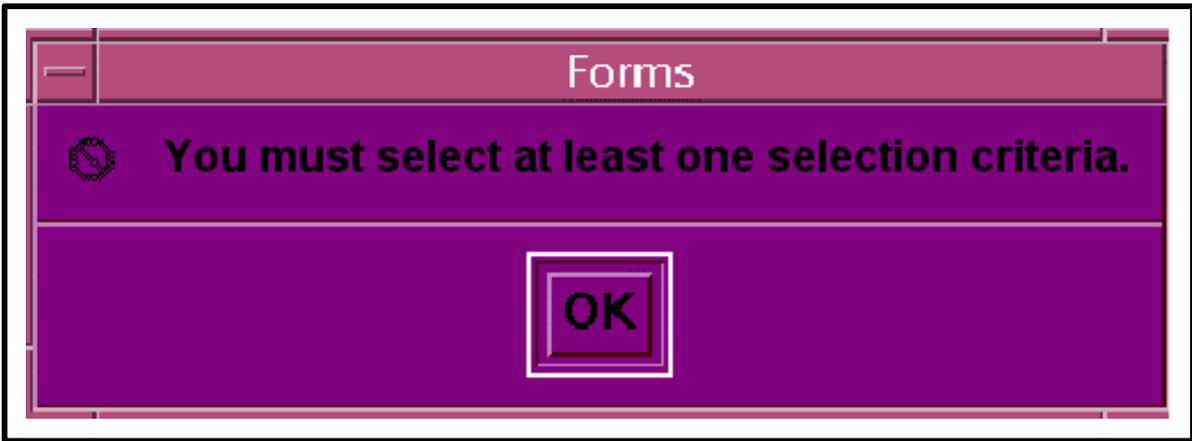

Figure 26. Selection Error Dialogue Box
- If no selection criteria were selected, a **Selection Error Dialogue** (Figure 26) is displayed in a purple box.